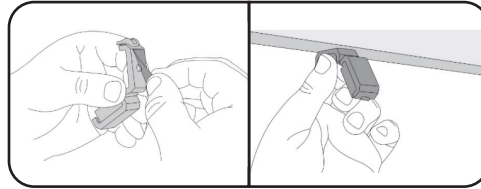

fig 4.3
5. To secure and organize the cables, determine where to place the cable management clips. (fig 4.3)